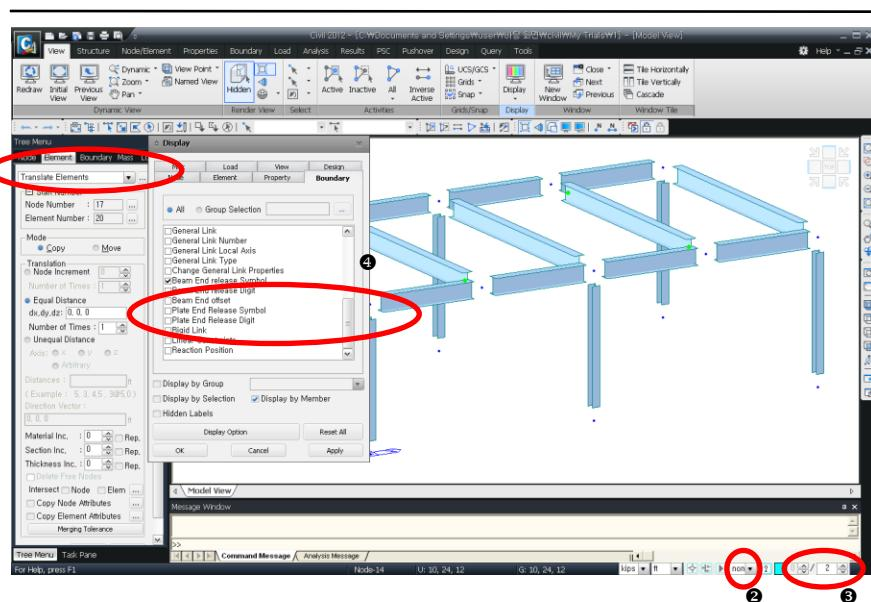

Figure 1.11 Generation of Girders and Beams
Even if  Node Number is not toggled on, the attributes of snapped nodes can be easily verified using Fast Query (Fig.1.11-②).
Civil allows mouse snap at the centers of the elements as well as any particular point in the elements by using Snap located at the bottom of the screen (Fig.1.11-③).